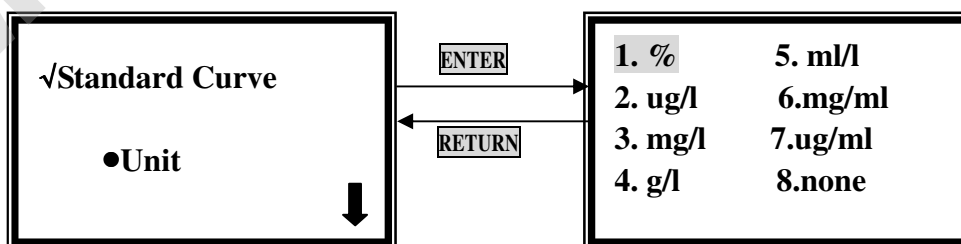

Fig.13
**[ENTER]**, 8 units are under your selection. (Fig 13)